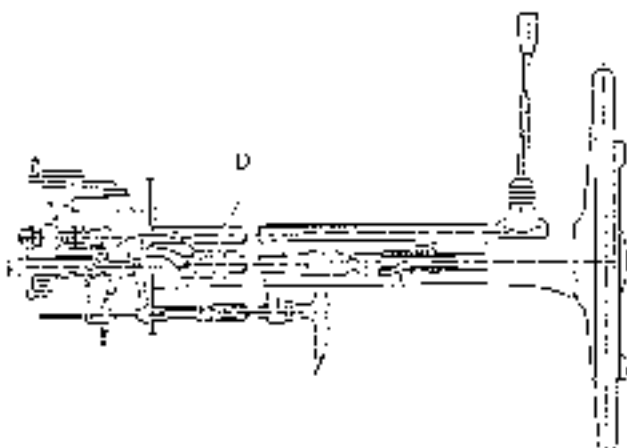

Fig. 46-7/1
11. Pull the cables through the rubber plate on the bearing assembly of the steering wheel shift system until they project about 440-450 mm. The insulating tube of the cable harness should not project into the steering column jacket by more than 15-20 mm (Fig. 46-7/1).
left while on assistant handle the cables of the cable opening A on the bearing assembly (Fig. 46-7/1).
15. Turn the steering wheel hard over to the left and to the right in order to check whether the steering tube is correctly installed. At the same time make sure that on left lock the cables are not under tensile stress at the cable opening A on the bearing assembly by means of the cable clip (see Fig. 46-7/1).